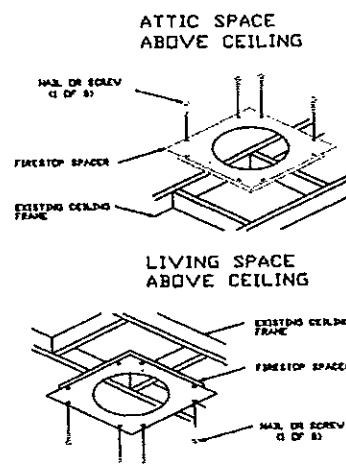

Figure 29 - Installing Firestop
1. Cut a 12 1/2" hole in the ceiling using the locating hole as a center point. The opening should be framed to a 12 1/2" x 12 1/2" (317.5mm x 317.5 mm) inside dimensions, as shown in Figure 18 on page 9 using framing lumber the same size as the ceiling joists. If the area above the ceiling is an insulated ceiling or a room, nail firestop from the topside. This prevents loose insulation from falling into the required clearance space. Otherwise, install firestop below the framed hole. The firestop should be installed with the flanges set into the framing and secured with no less than three nails per side (see Figure 29).